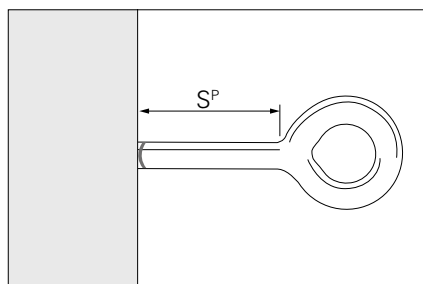

Fig. A12.02
- The ring bolt (**101**) including the ring must not protrude more than 7 cm from the anchoring base. This is ensured when the ring bolt is screwed in up to the last mark in front of the ring. (Fig. A12.02)